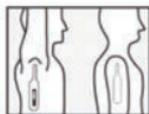

Figure 4
**Axillary Use:** Wipe armpit with a dry towel. Place the probe in the patient’s armpit (Figure 4) and keep the patient’s arm pressed firmly against the body. The time required for an accurate underarm temperature may be 12 seconds or longer depending on placement of the probe and closure of the arm against the body.